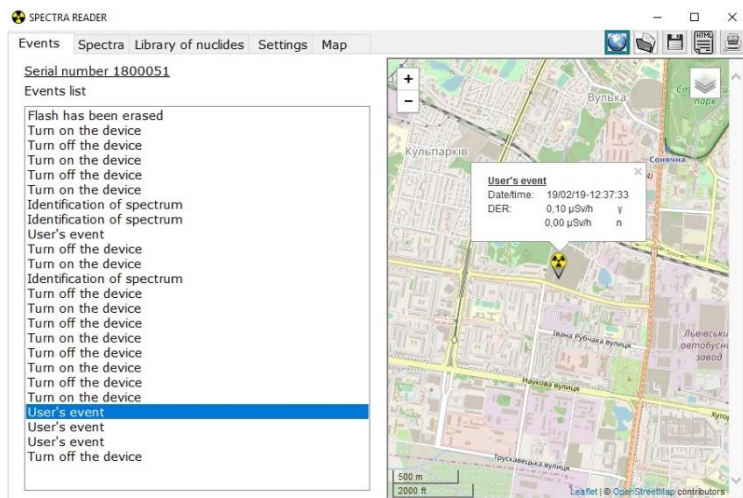

Figure 37 – Event display on the map
- display the event on the map, according to the coordinates where it was saved (if the coordinates have been added) (Fig. 37).